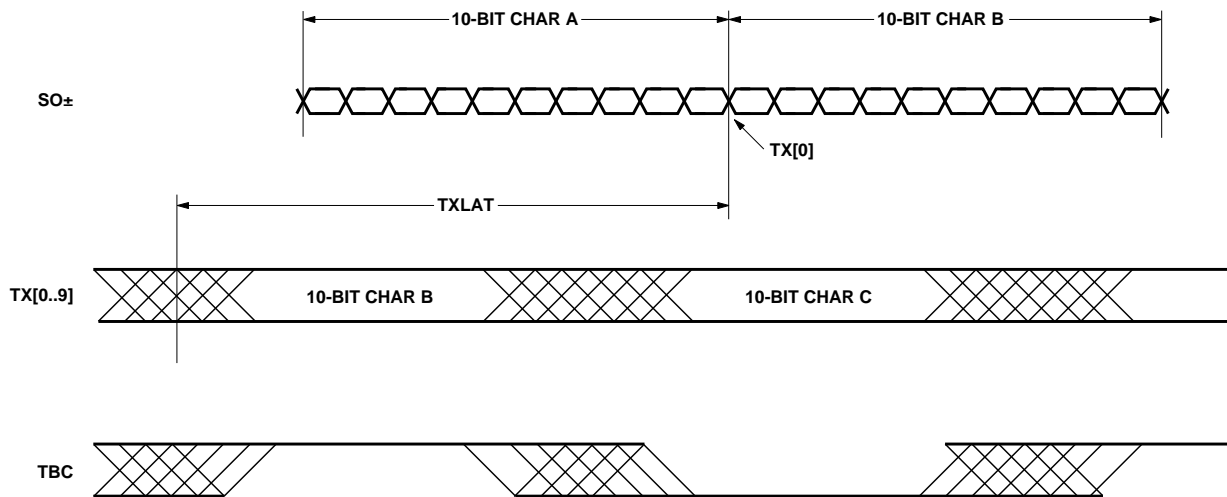

Figure 4. Transmitter latency. TX[0] is first bit on SO_{\pm} .
1. The transmitter latency, as shown in Figure 4, is defined as the time between the leading edge of a parallel data word and the leading edge of the first transmitted serial output bit of that data word.